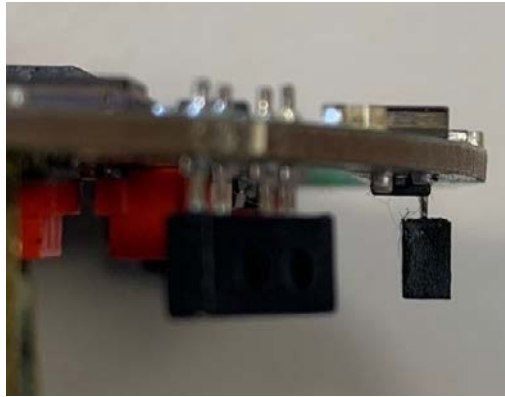

Figure 4: The proximity sensors should be perpendicular to the e-puck board and soldered properly.
- b) If one or more basic board proximity sensors don't work properly (give improper readings). Make sure the sensors are not tilted (see Figure 4) and are soldered correctly to the board.